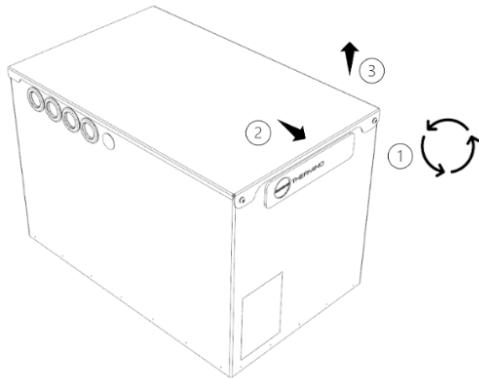

Figure 7 - Lid Removal of Thermino Heat Battery
- Remove lid. The lid is secured by 2 x M5 button head cap screws at the front and two locating pins at the back (Figure 7):
- (1) Remove 2 x M5 button head cap screws using 3mm hex head and set aside.
- (2) Slide the lid forward, (3) then lift the lid up and set aside.